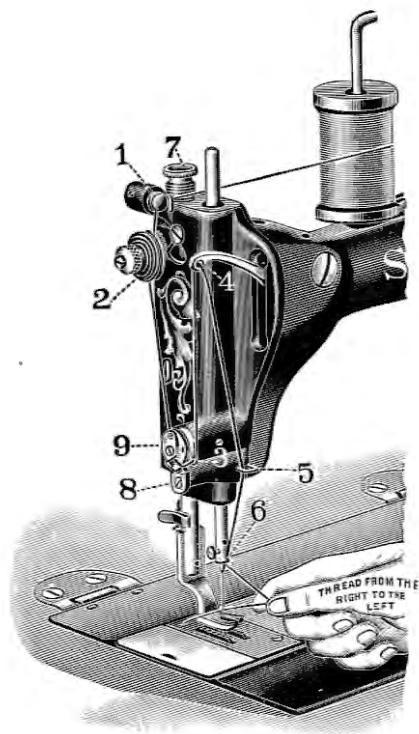
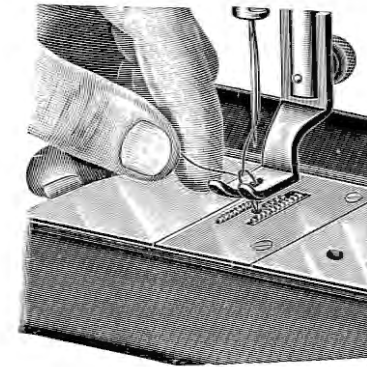

Fig. 3
Fig. 9
Place the spool on the spool holder, pass the thread under the thread retainer guide wire, through thread retainer (1), down (back) between tension discs (2), thence under thread controller spring (3), up into take-up lever (4), down to thread leader (5) and needle bar thread guide (6), then thread the needle from right to left as shown in Fig. 3 and draw two or three inches of thread through the eye of the needle when the take-up lever is at its highest point.
the end of the upper thread slack between the hand and needle and turn the balance wheel carefully from you while the needle goes down and up, and the point down to the presser foot (see Fig. 3), bringing the take-up lever to its highest position. Then draw up the upper thread and the under thread will come up with it (see Fig. 9). Pass both threads back under the presser foot.
Regulate the tension on the upper thread by turning the nut on top of tension (see 2, Fig. 3) toward you to tighten and from you to loosen the tension. When the presser lifter is down the upper tension may be tested by hand.
Turn presser bar thumb screw (7, see Fig. 3) over to the right to make the pressure heavier or over to the left to make it lighter; the pressure should be only heavy enough to prevent the material from rising with the needle and to insure the feed moving the work along evenly; a heavier pressure would make the machine run harder and be of no benefit.
To vary the tension of the controller spring, loosen the set screw near (3, see Fig. 3) at the right of the spring, remove the face plate, then from the inside turn the stud forward or backward as required and tighten the set screw. In any case where an unusually light tension is used, the tension on the controller spring should be correspondingly light. The coils of the controller spring should be oiled occasionally.
**To Place a New Thread Controller in Position.** Remove the entire thread controller by taking out screw (8, see Fig. 3) and release the spring by removing screw (9). (Be careful not to lose the small roller.) Place the new spring, roller and screw in their positions. Next put the entire thread controller on the face plate, taking care to slide the little tail, on the coil of the spring, into the notch in the stud over which the coil slides.